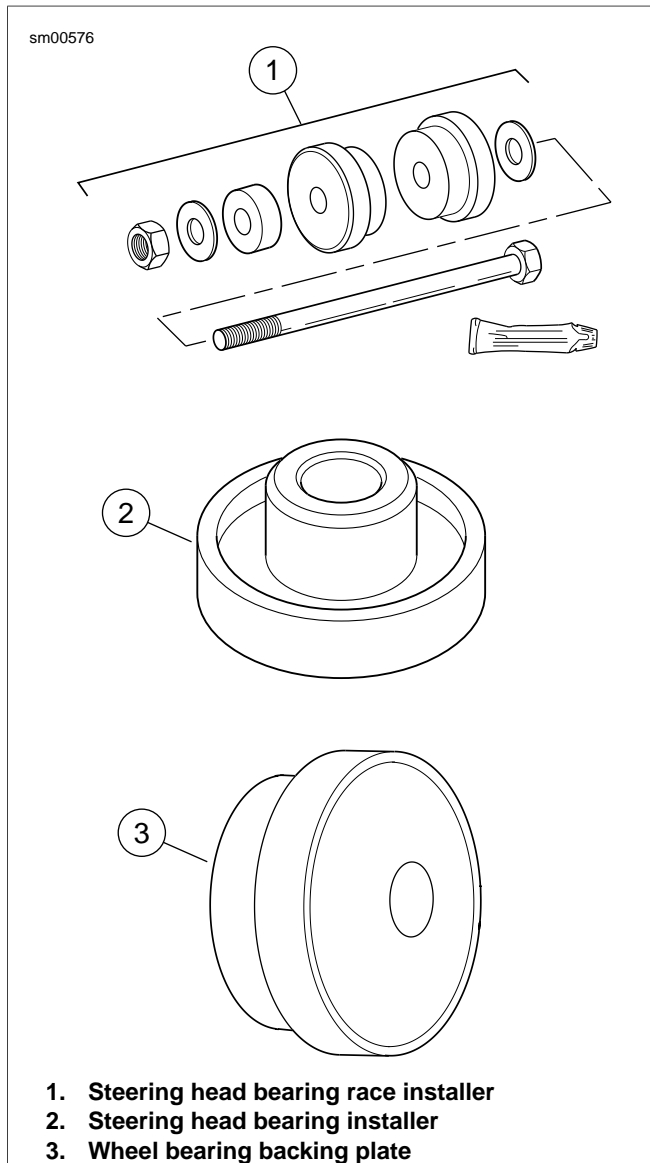

Figure 2-105. Steering Head Bearing Installation Tools
1. See Figure 2-105. Install **new** upper steering head bearing into the frame neck using STEERING HEAD BEARING RACE INSTALLER (Part No. HD-39302), the BACKING PLATE (Part No. B-43993-12) from the wheel bearing installation kit.
- b. See Figure 2-105. Insert the steering head bearing installation tool into the upper bearing, with the shoulder into the bearing bore.